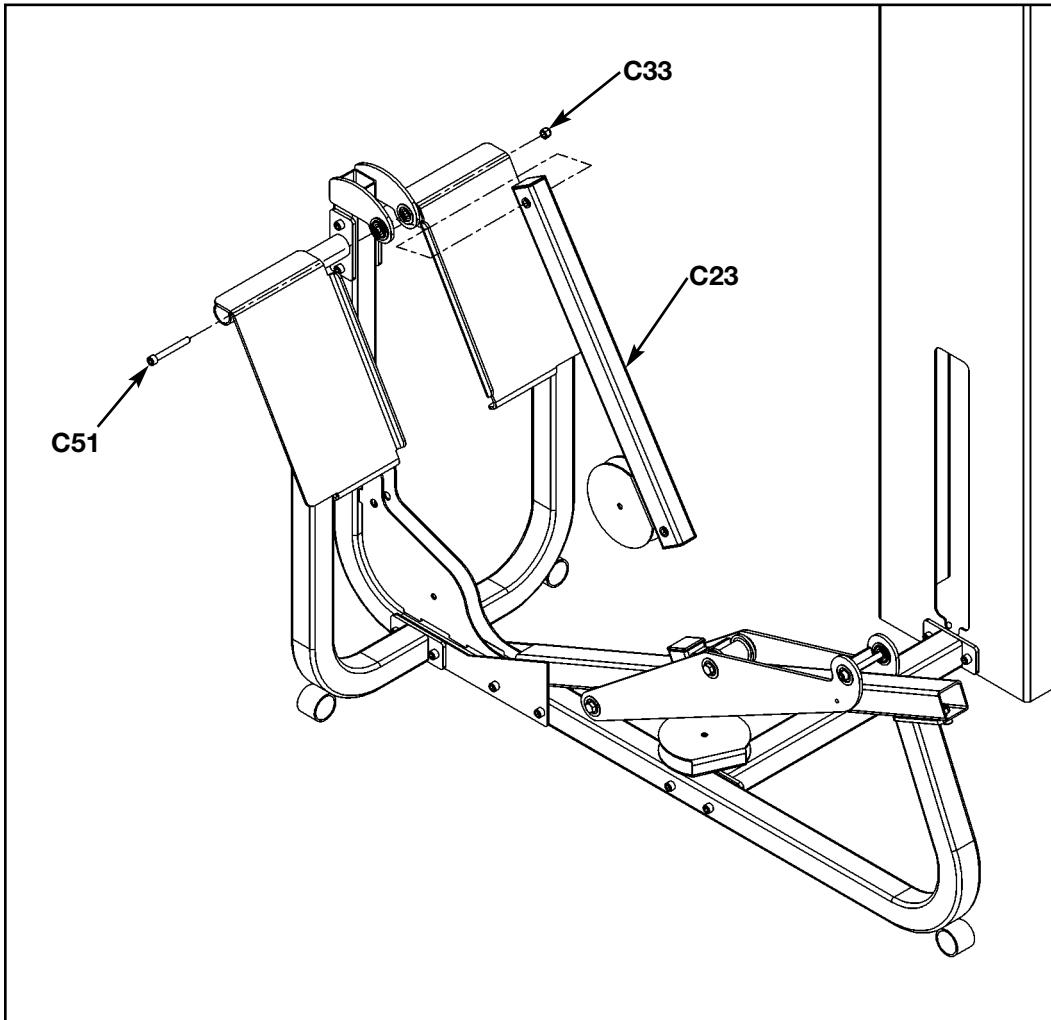

Figure 10
**6. Install pivot tube** (see steps 6A, 6B and Figure 10).